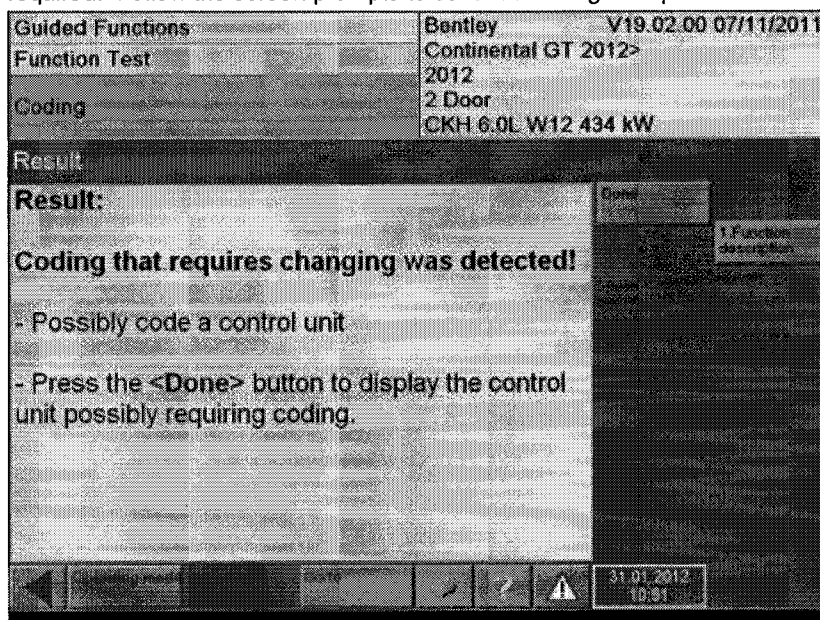

Figure 18
18. The Result screen will show that coding requires changing. As prompted select *Done* (see Figure 18)